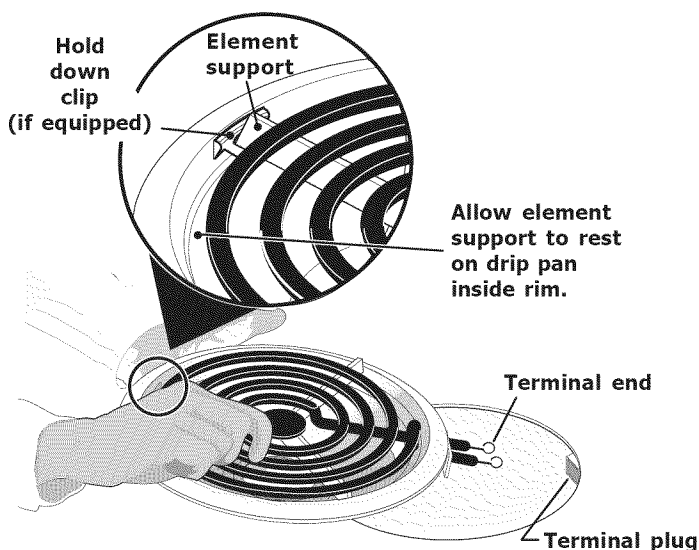

Fig. 1
1. Slide the terminal end on the element through the opening in the drip bowl (See Fig. 1).